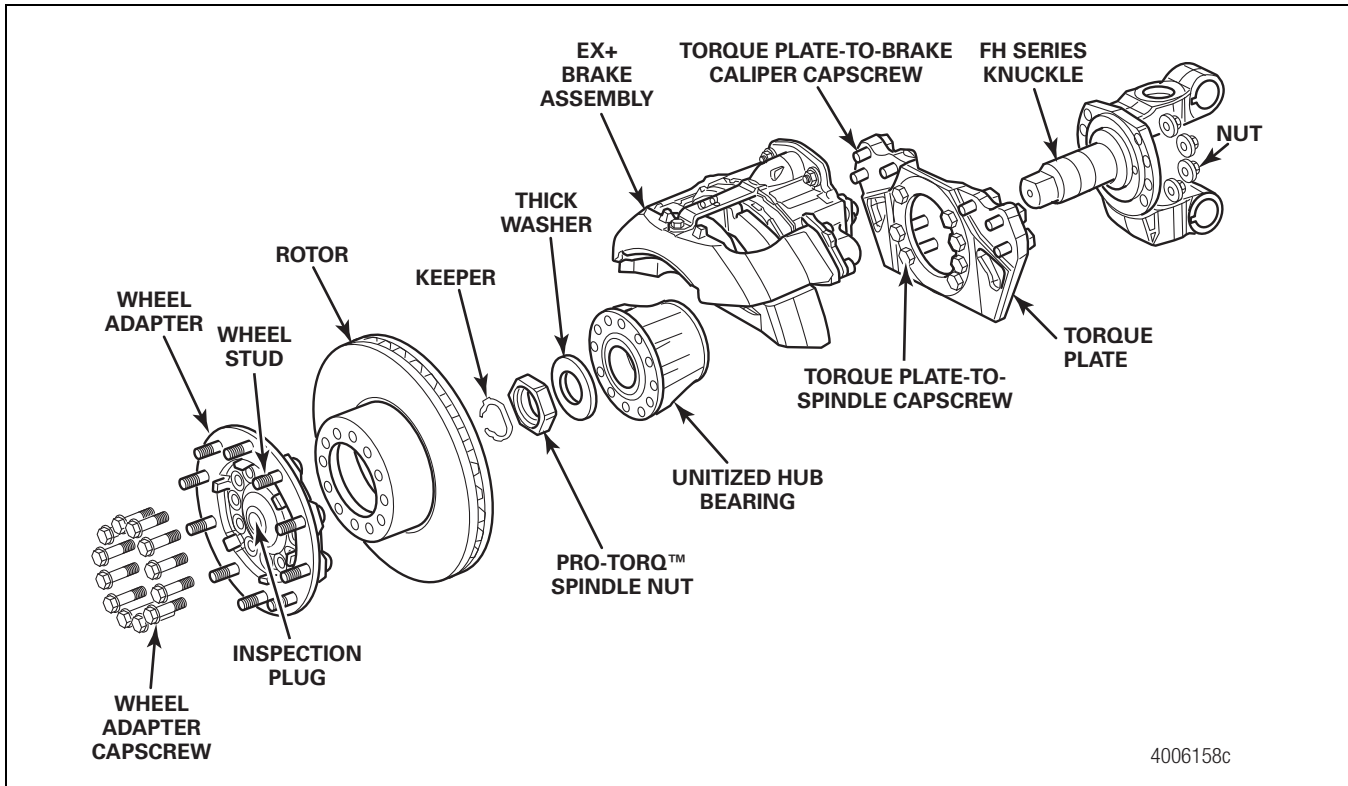

Figure 13.25
4. Remove the wheel adapter and rotor. Inspect the rotor for cracks and signs of wear. Replace the rotor if necessary. Figure 13.25.